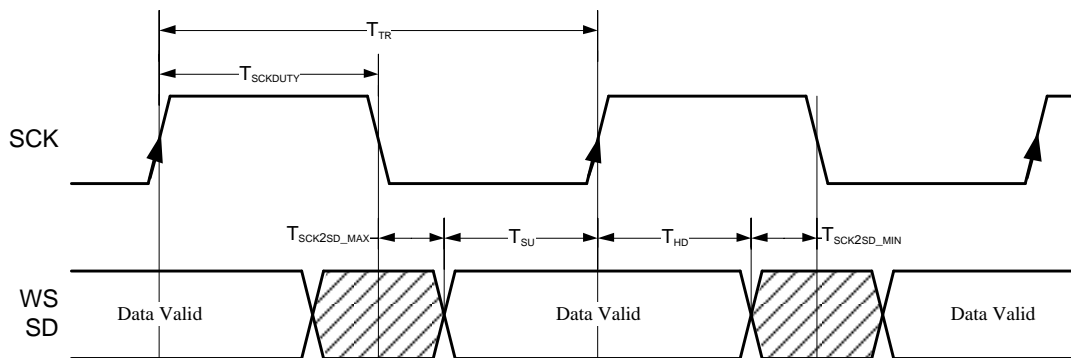

Figure 12. I²S Output Timings
- Refer to Figure 12 on page 20. Meets timings in Philips I²S Specification.